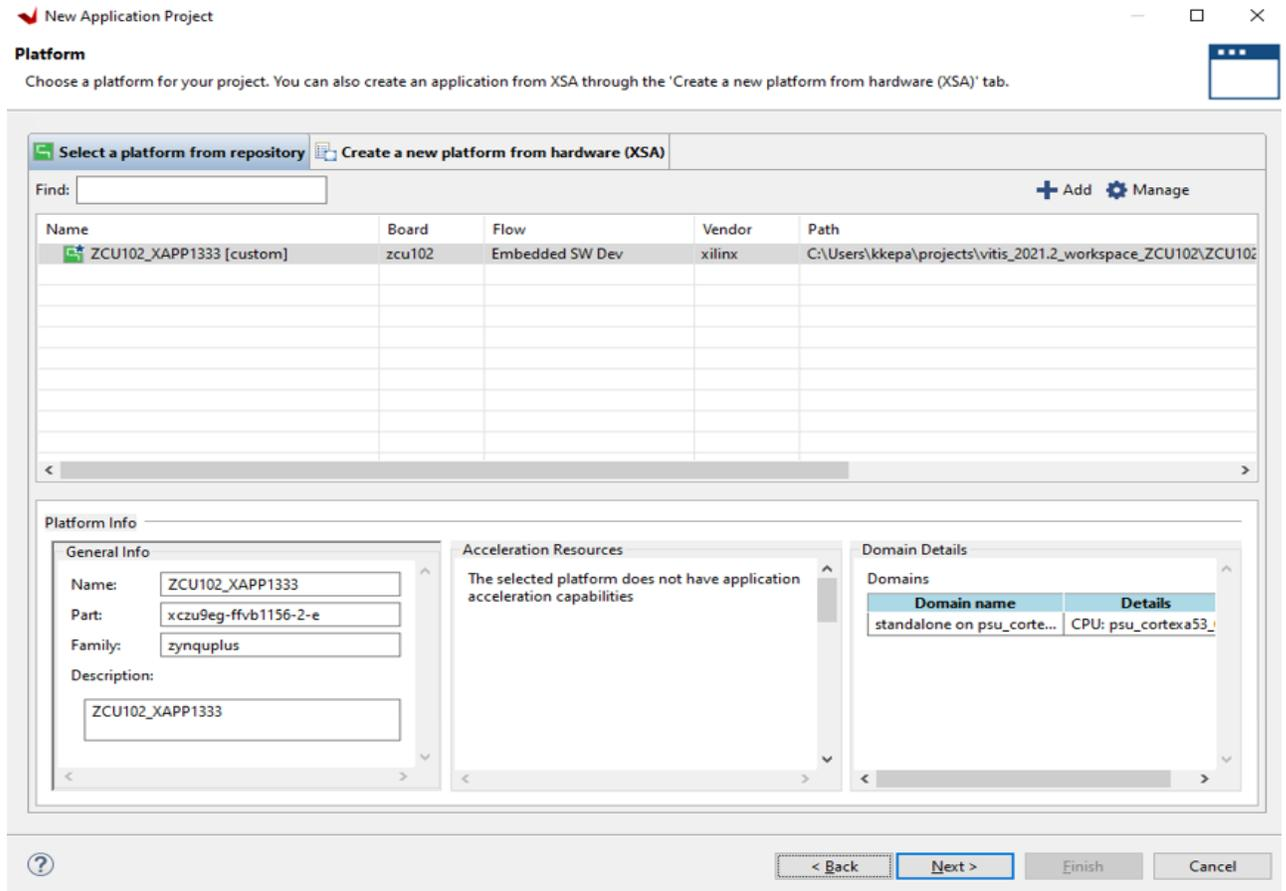

Figure 14: Creating the ExternalKeyStorage Project in Xilinx Vitis – Platform Selection
9. Leave the domain as **standalone on psu_cortexa53_0**. These settings are shown in Figure 14, Figure 15, and Figure 16.
11. Select **Empty Application (C)**.